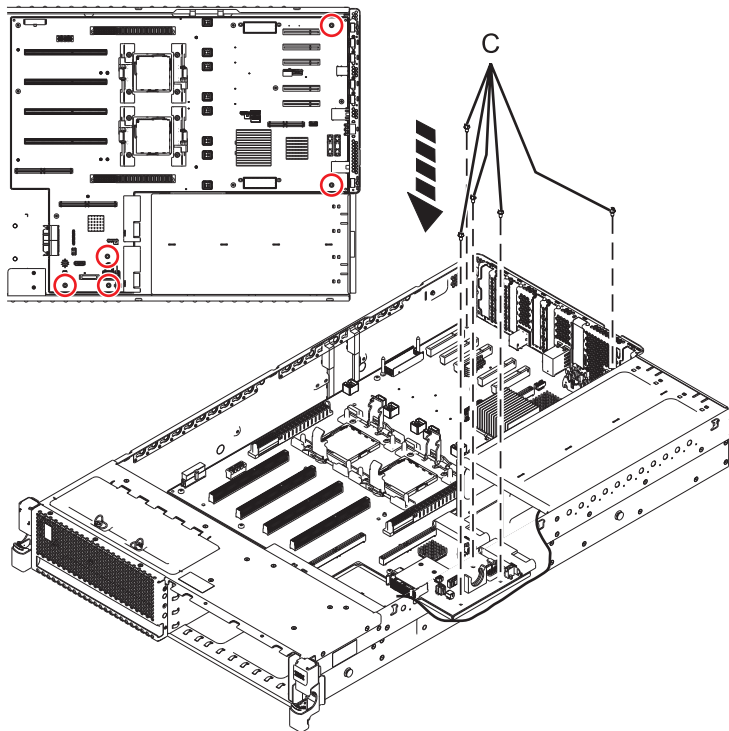
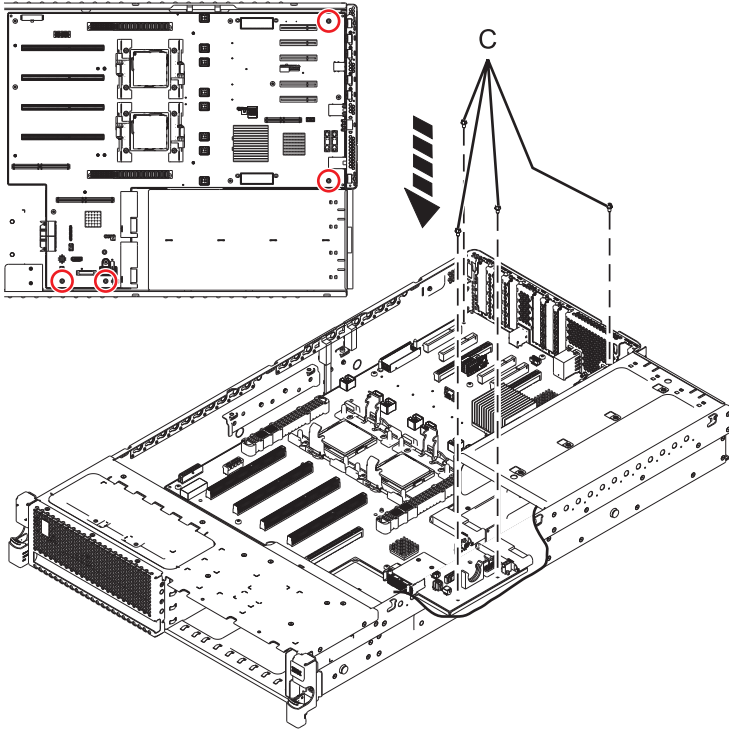

Figure 15. Replacing the system backplane (five screws for 8231-E2B)
Figure 16. Replacing the system backplane (four screws for 8231-E1C, 8231-E1D, 8231-E2C, 8231-E2D, or 8268-E1D)
- e. Tighten the screws (C) that secure the system backplane to the system chassis. See Figure 15 or Figure 16 on page 18.